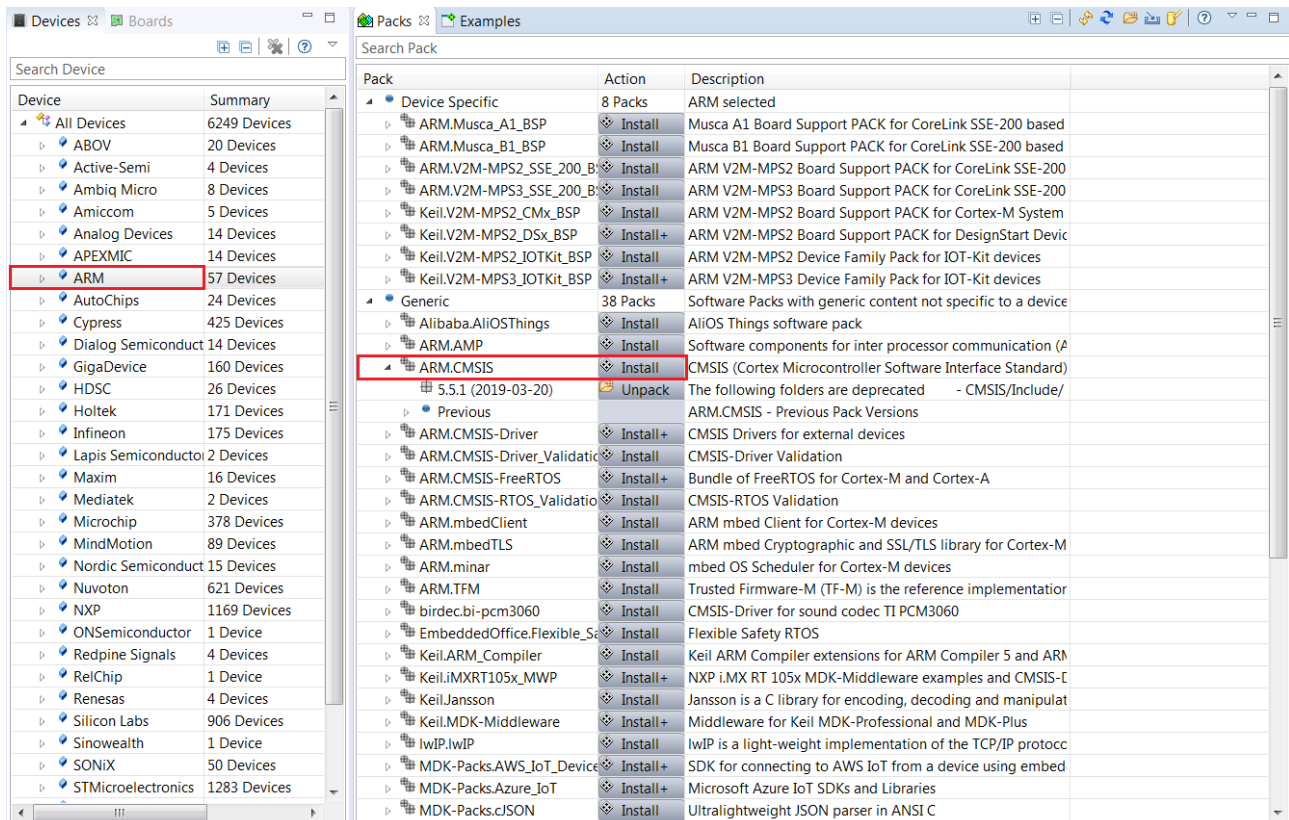

Figure 47. Installing the Arm CMSIS-Pack
The figure "Installing the Arm CMSIS-Pack" (Figure 47) shows an example of the Packs tab after checking for updates.
- To manually install a CMSIS-Pack, select the **Packs** tab and search for the required CMSIS-Pack (in this example, we installed the **ARM.CMSIS** pack); click the **Install** button (shown in the figure "Installing the Arm CMSIS-Pack" (Figure 47)). Alternatively, follow the next steps to automatically resolve any Pack dependencies that are missing.